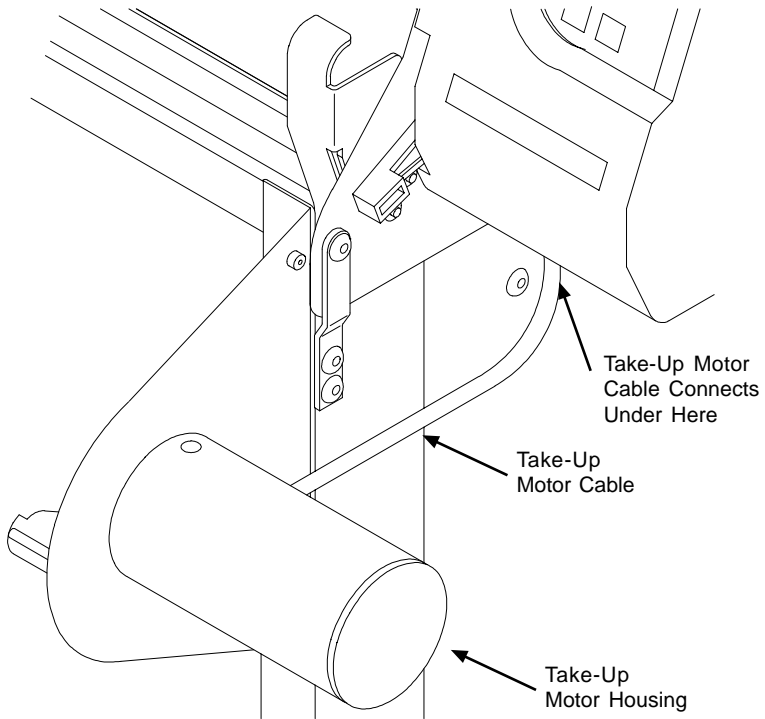

Figure 11. Connecting the take-up motor cable.
5. Plug the take-up motor cable into the socket on the bottom of the right cover and rotate the locking collar until it stops. Gently pull on the cable to ensure that the plug is securely fastened. See *Figure 11*.